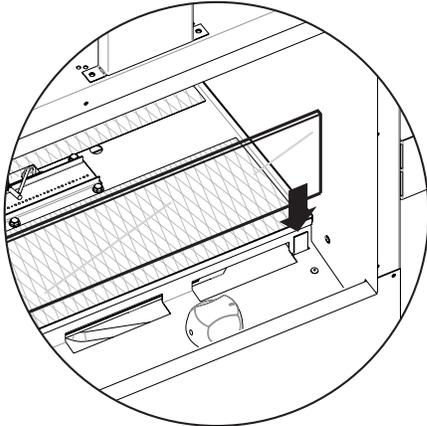

Figure 21
2. Install the glass wind panel (two used on see-through fireplaces). See Figure 21.